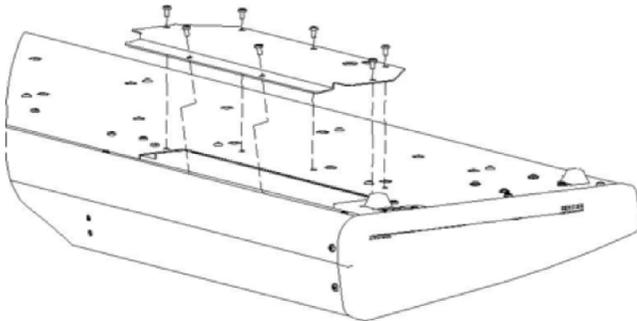

Figure 1.
4. Using a #2 (small) Phillips screwdriver, remove the seven screws that secure the access panel, as shown in Figure 1. Place the screws in a small container or dish so as not to lose one.